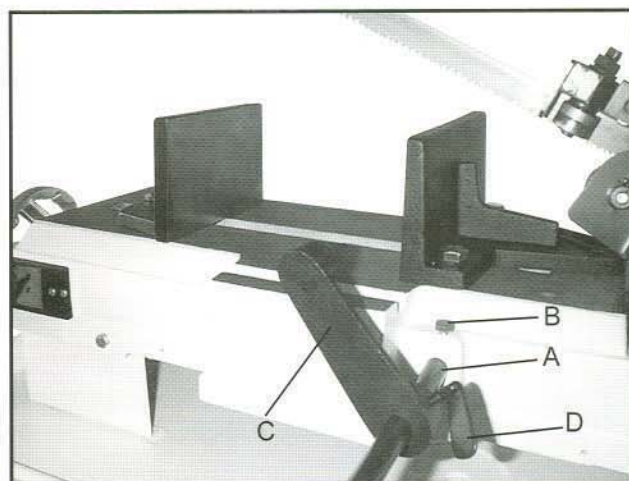

Fig. 1
4. Slide the material stop bar (A, Fig. 1) into the base and secure by tightening bolt (B, Fig. 1). Slide the material stop (C, Fig. 1) onto the bar and tighten bolt (D, Fig. 1).